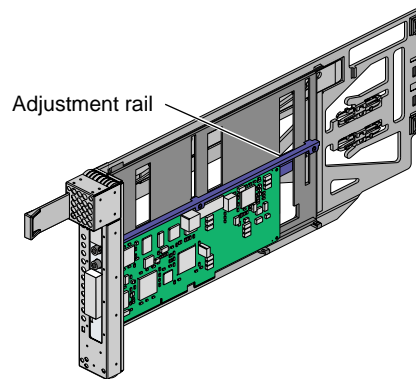

Figure 12-6 Moving Carrier Guide Bar to Secure Half-height PCI Card
- d. Move the carrier guide bar (adjustment rail) so that it holds the card firmly in place (see Figure 12-6).